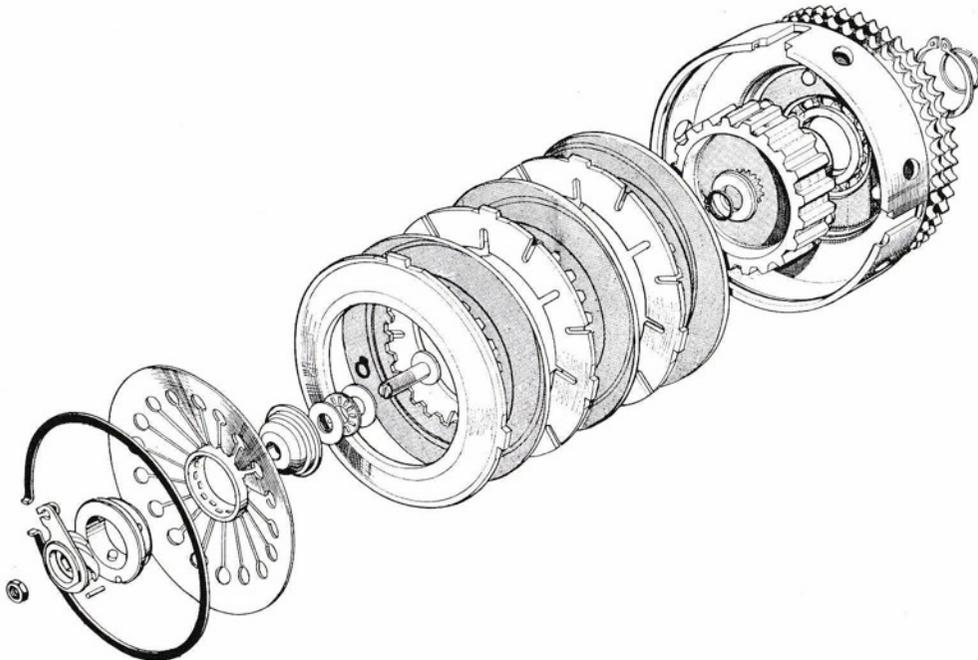

Fig. 29 Clutch order of assembly.
- 11 Assemble the clutch plates as in Fig. 29 with a sintered bronze friction plate first in the housing followed by a plain steel plate alternately. The pressure plate is outermost with the chamfer outboard.